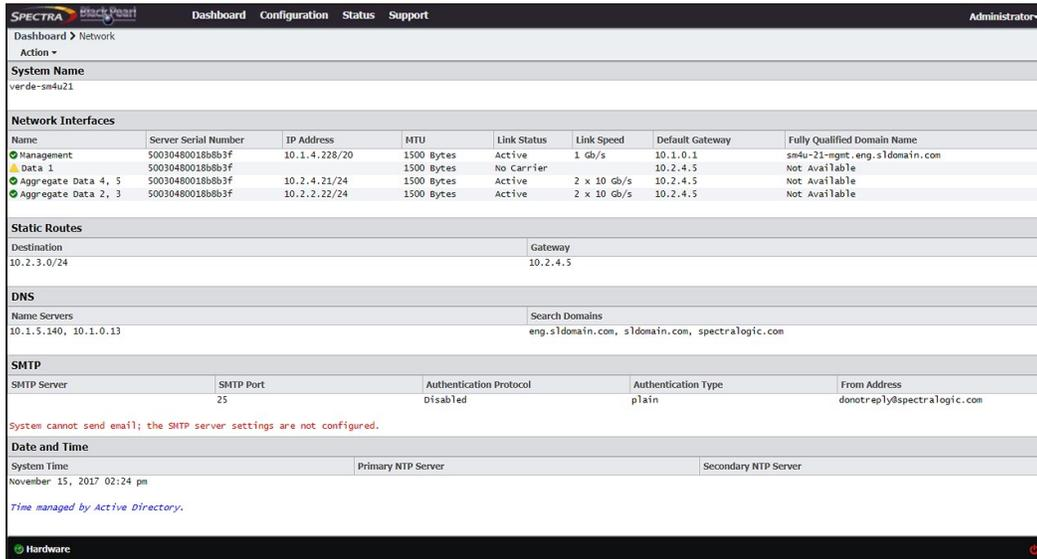

Figure 34 The Network screen.
1. From the menu bar, select **Configuration > Network**, or select the Network pane from the Dashboard screen. The Network screen displays (see Figure 34 on page 87).